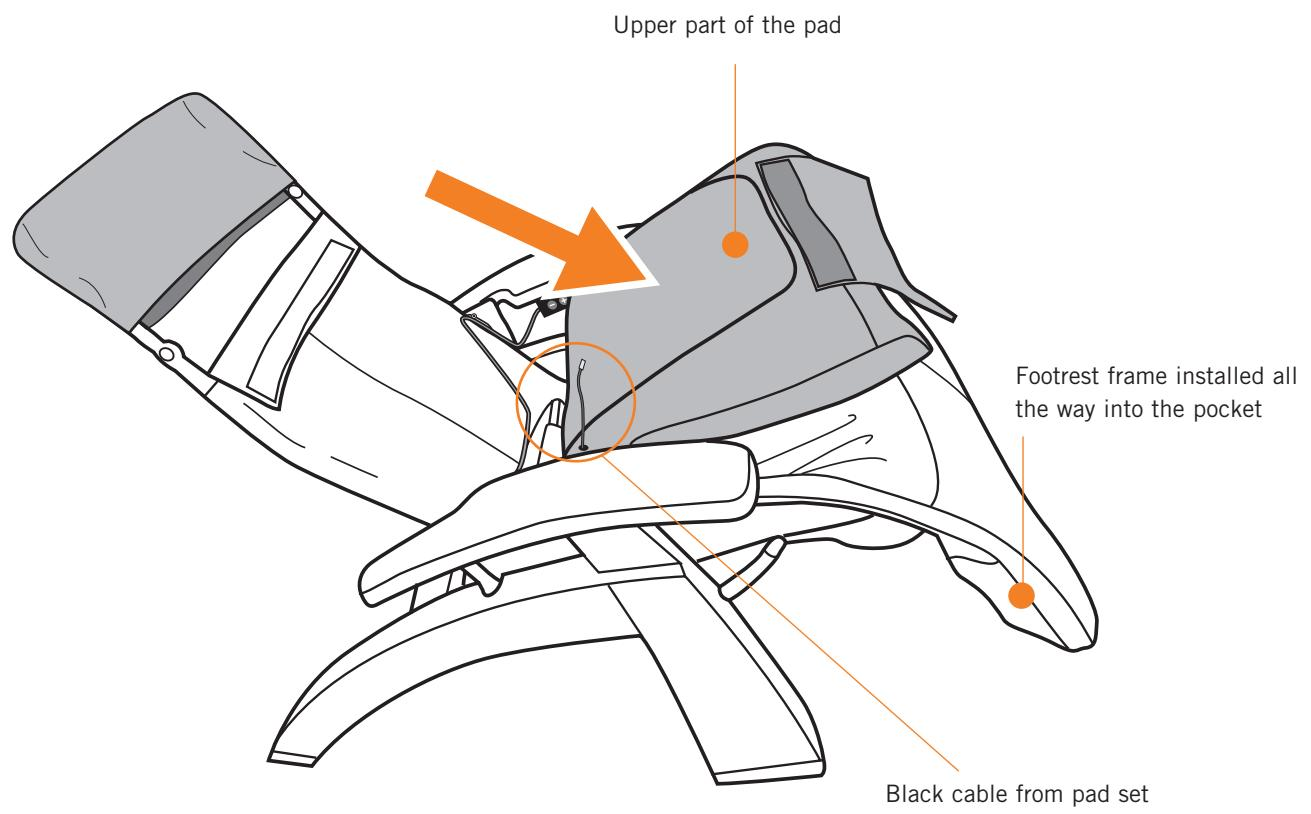

Fig.7
12. Slide the body pad onto the footrest frame, making sure the frame slides into the pockets on the bottom corners of the pad (Fig.7).
13. Fold the upper part of the pad forward onto the seat (Fig.7).